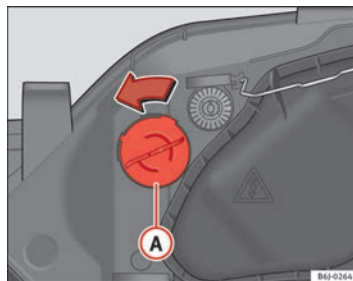

Fig. 165 Turn signal
- Turn bulb holder ⇒ Fig. 165 Ⓐ to the left and pull.